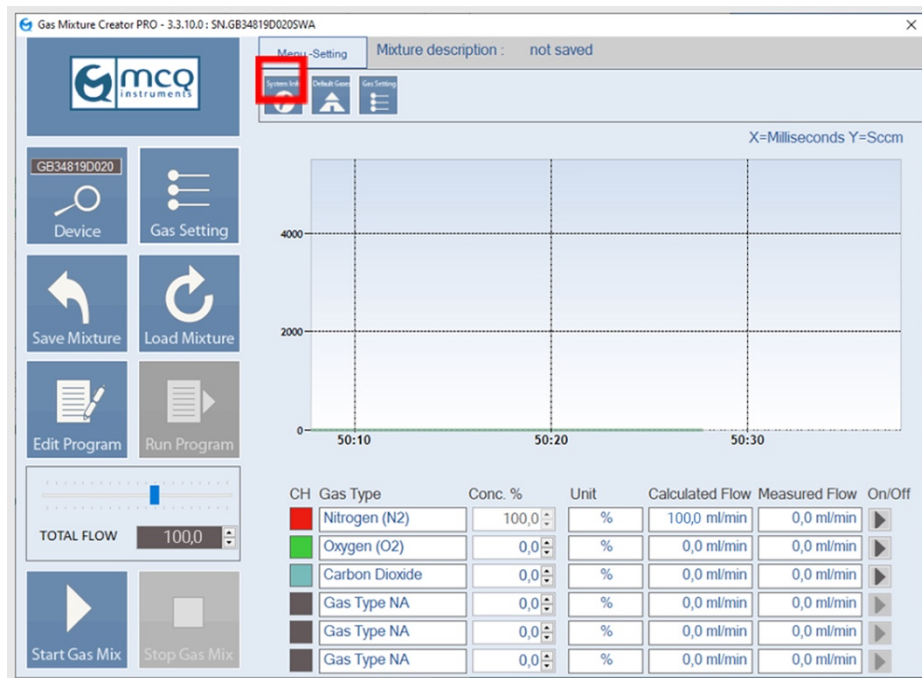
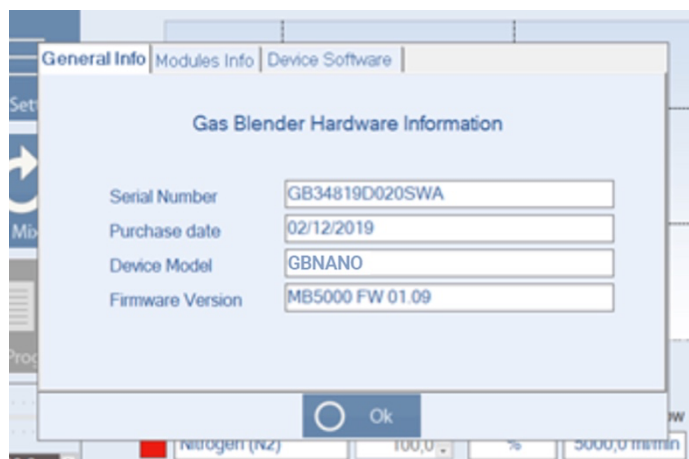
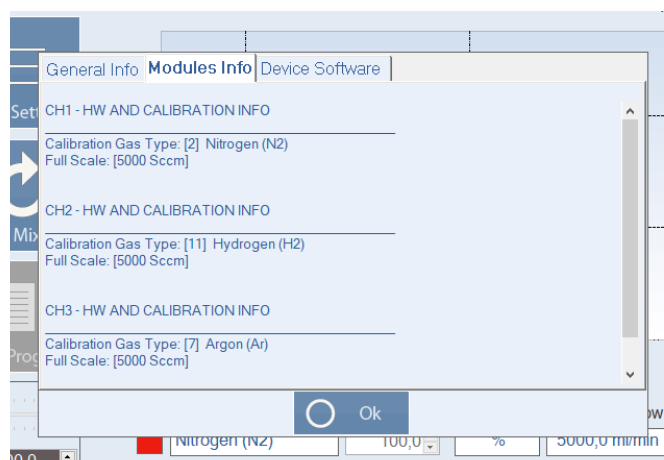
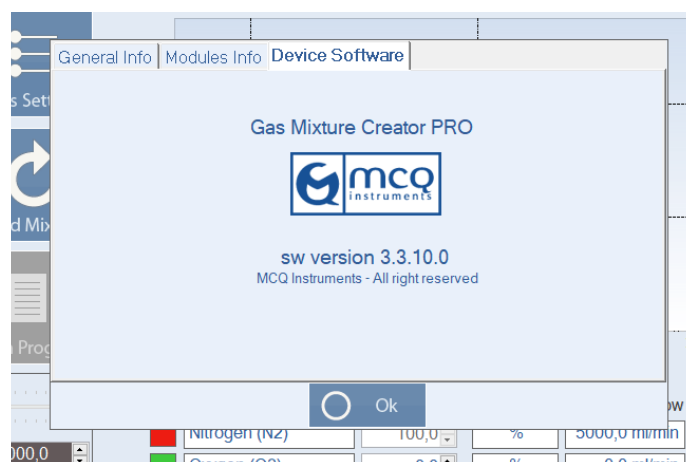

Figure 6-12
Figure 6-13
Figure 6-14
Figure 6-15
- Click on the **System Info** button (Figure 6-12) into **Menu-Settings** window to access the Gas Mixture Creator Info panel. The panel is divided in three sections: **General Info** (Figure 6-13), where basic hardware information about the instrument is provided; **Modules Info** (Figure 6-14), where basic hardware information and configuration settings of each module is provided; **Device Software** (Figure 6-15), where basic information about the software itself is provided.